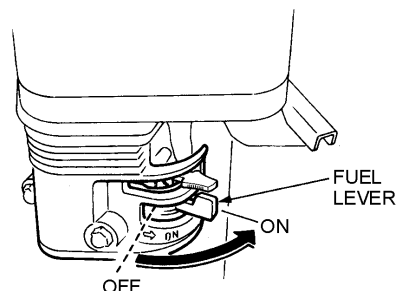

Figure 10. Engine Fuel Lever (ON Position)
- Place the engine fuel lever to the **ON** position. (Figure 10).